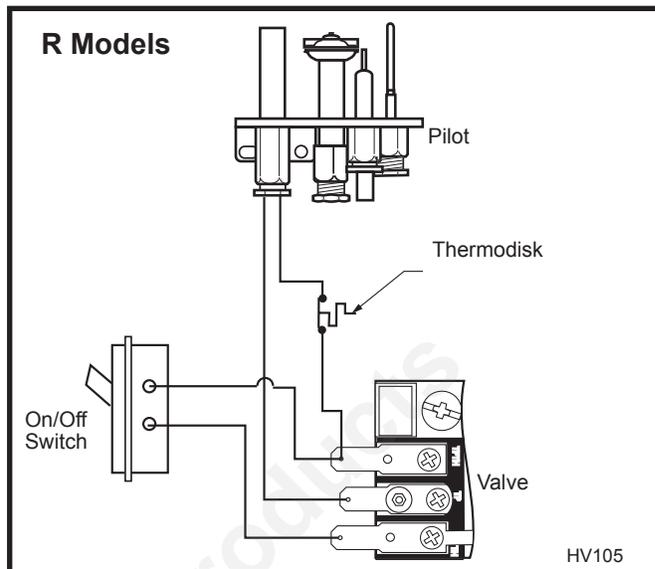

Fig. 6 Remote switch wiring for R Models.
3. Connect wiring to gas valve. Refer to Figure 6 or 7, depending upon which diagram is appropriate.